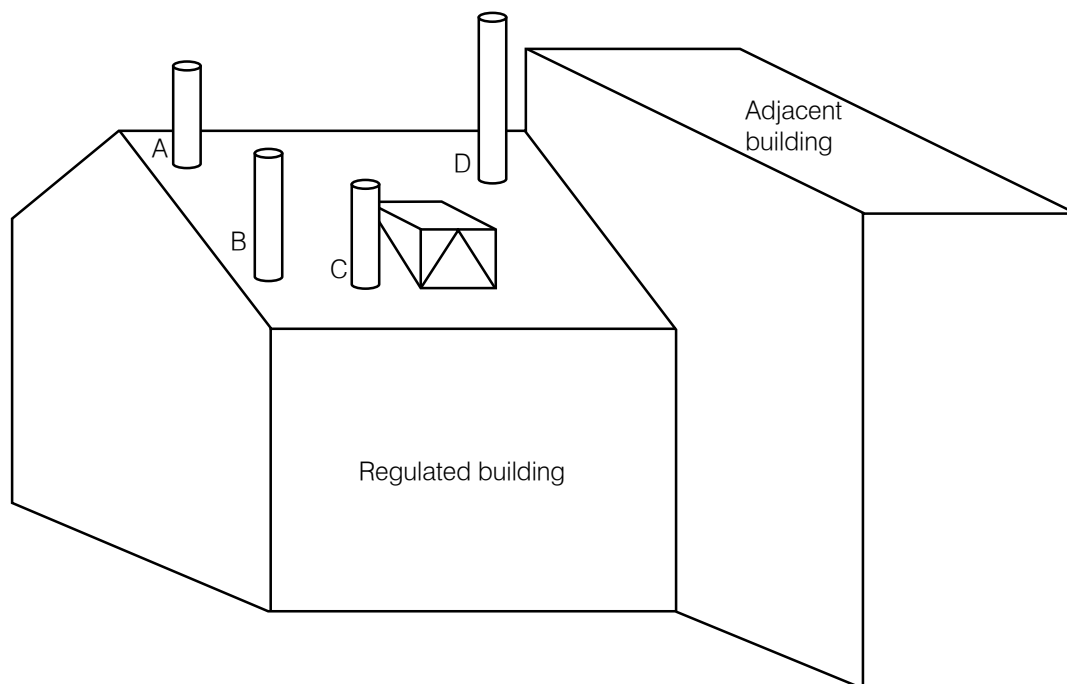

Figure 7-2: Flue terminal positions
- The flue terminal should be located in a draught free area, i.e. above the roof, where it can discharge freely and not present a fire hazard whatever the wind conditions. The flue outlet positions shown in Figure 7-2 (from Approved Document J) can meet this requirement.
- The heights and separation distances shown in Figure 7-2 may have to be increased in particular cases, e.g. where high wind exposure, surrounding tall buildings, or adjacent trees can cause adverse wind effects.